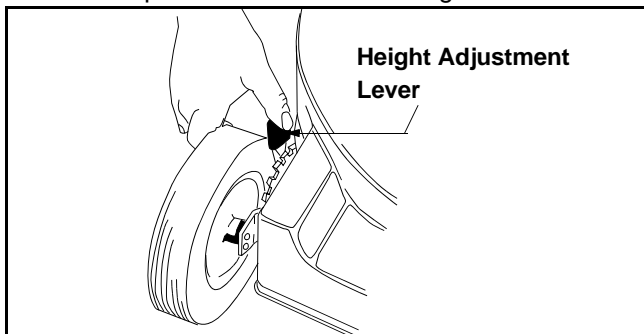

Figure 18
1. Simply depress the lever towards wheel and move it to any of the nine positions for the desired cutting height. See Figure 18.